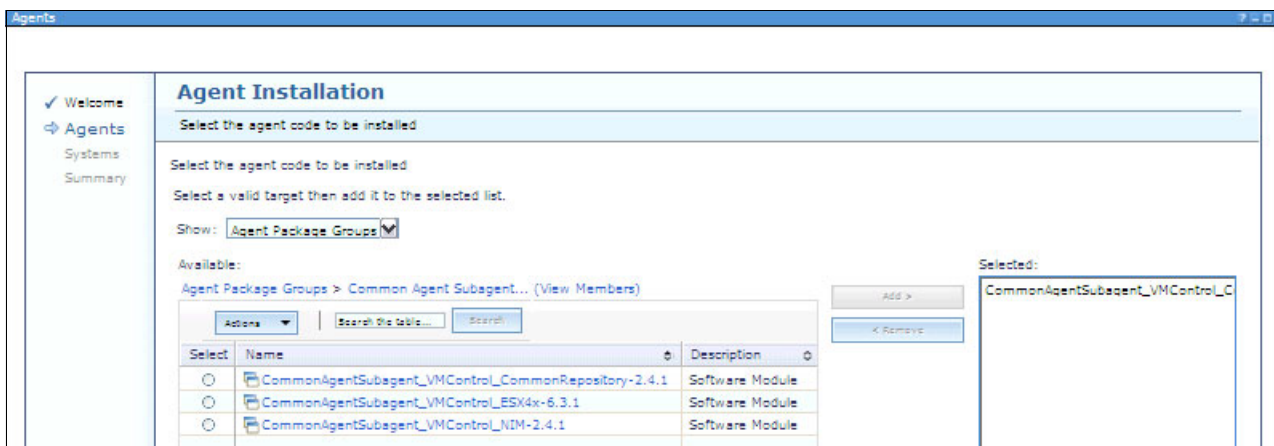

Figure 9-35 CommonAgentSubagent_VMControl_CommonRepository-2.4.1 window
5. Select **CommonAgentSubagent_VMControl_CommonRepository-2.4.1**, as shown in Figure 9-35, then click **Next**.